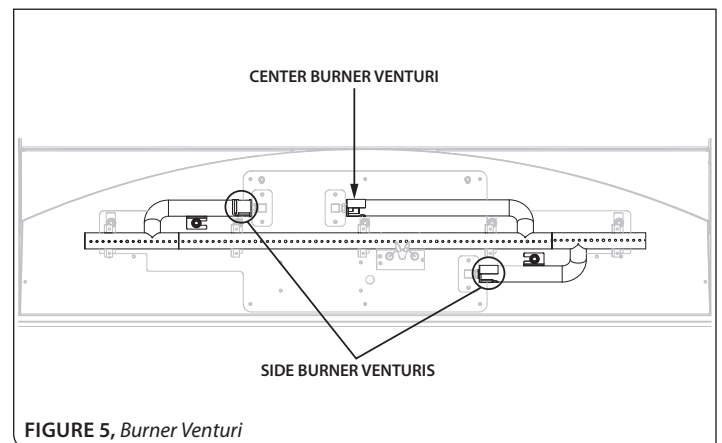

FIGURE 5, Burner Venturi
- Step 1: Adjust the burner venturi. Loosen the screw securing the venturi cap and adjust to the correct setting. See **FIGURE 5** and **TABLE 2**.